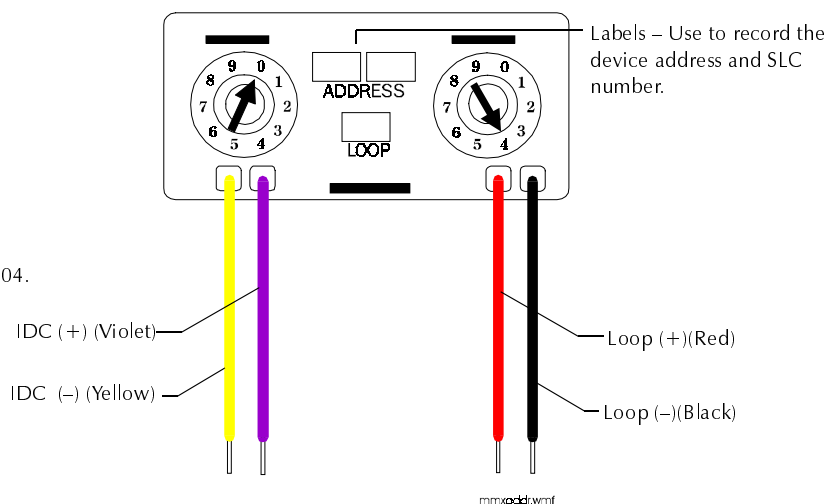

Figure 2-67 Setting a M500M Series Module (M501M shown) Address
Connect the SLC wiring to M500M terminals 1 (–) and 2 (+). The M500M takes one module address on the SLC. Use the rotary switches on the M500M to set the module to the required SLC address. (For example, the M501M shown in Figure 2-67 is set to SLC address 04.)
3. Set the M500CH rotary switches to the required SLC address. (The M500CH takes one module address on the SLC.) For instructions on setting rotary switches, see Figure 2-67 on page 2-49.
3. Set the M500CH rotary switches to the required loop address. (The M500CH takes one module address on the SLC.) For instructions on setting rotary switches, see Figure 2-67 on page 2-49.